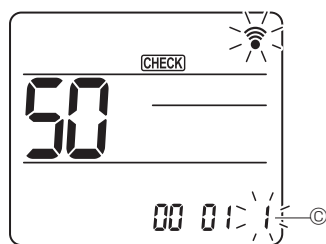

Fig. 7-20
④ Selecting the setting number
Use the [DOWN] button to change the Setting number ⑦. (Fig. 7-20)